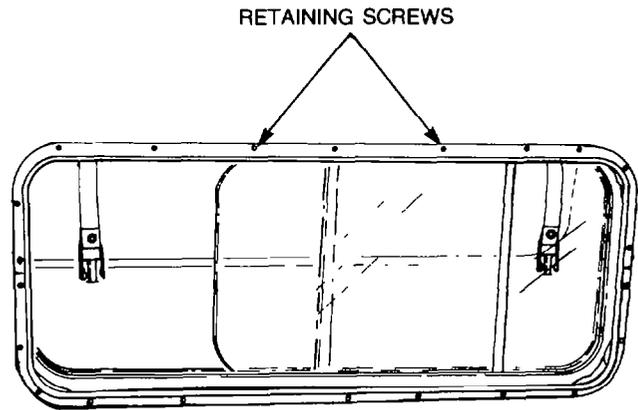

Figure 7 — Module Membrane — Removal
- g. Remove the screws from the cab rear window surround, then remove the surround to allow the communications membrane to be removed (see Fig. 7).